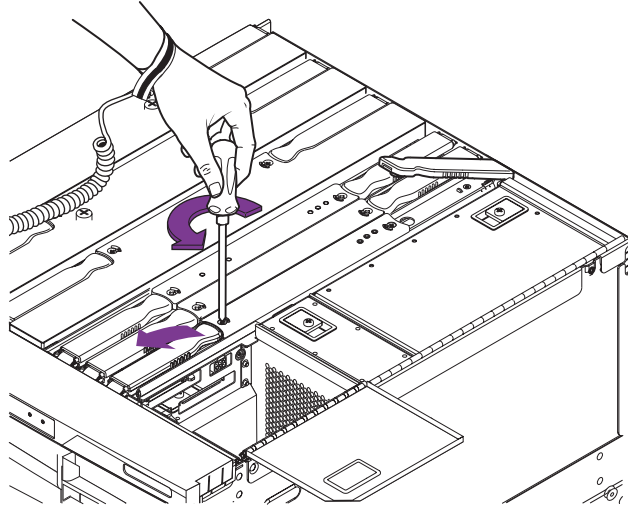

FIGURE 10-4 Unlocking the IB_SSC Assembly Ejector Levers
11. From the right of the system, unlock the ejector levers on the IB_SSC assembly with a Phillips no. 2 screwdriver (FIGURE 10-4).